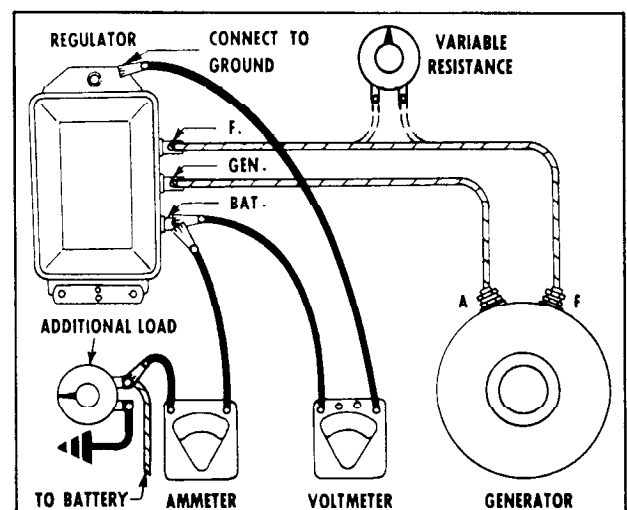

Fig. 13-16 Checking Current Regulator Setting
1. Connect an ammeter into the circuit as shown in Fig. 13-16.